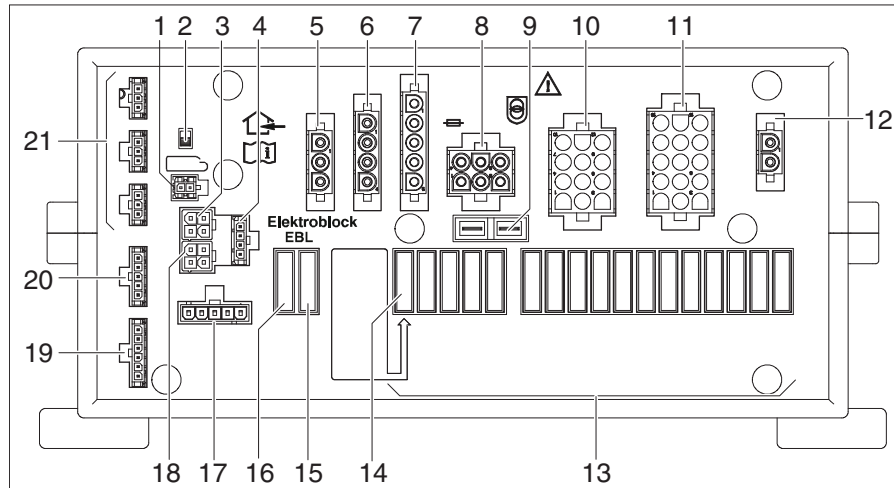

Fig. 247 Transformer/rectifier (EBL 402/403)
Location The transformer/rectifier EBL 402/403 (Fig. 247) is situated on the right in the rear garage.
- ▷ The battery cut-off switch (Fig. 247,2) disconnects all the appliances that are connected to the transformer/rectifier from the 12 V network.
- Turn the battery cut-off switch on and off (Fig. 247,2) three times in a row.